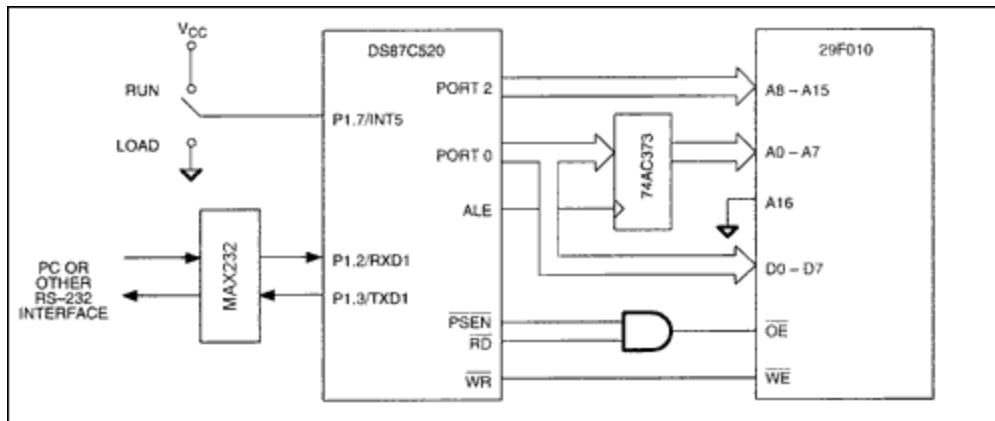

Figure 2. Bootloader hardware.
**Figure 2** illustrates the use of a 29F010 5.0V-only flash memory as part of a bootloader design. Although this configuration was designed to be compatible with the software presented in the file HSM\_LOAD.ASM, it can be easily adapted for other flash memory or NV RAM devices. Some flash memory devices such as the 28Fxxx series require an external 12V  $V_{PP}$  for programming. Designs which incorporate these devices will need to include a voltage source.